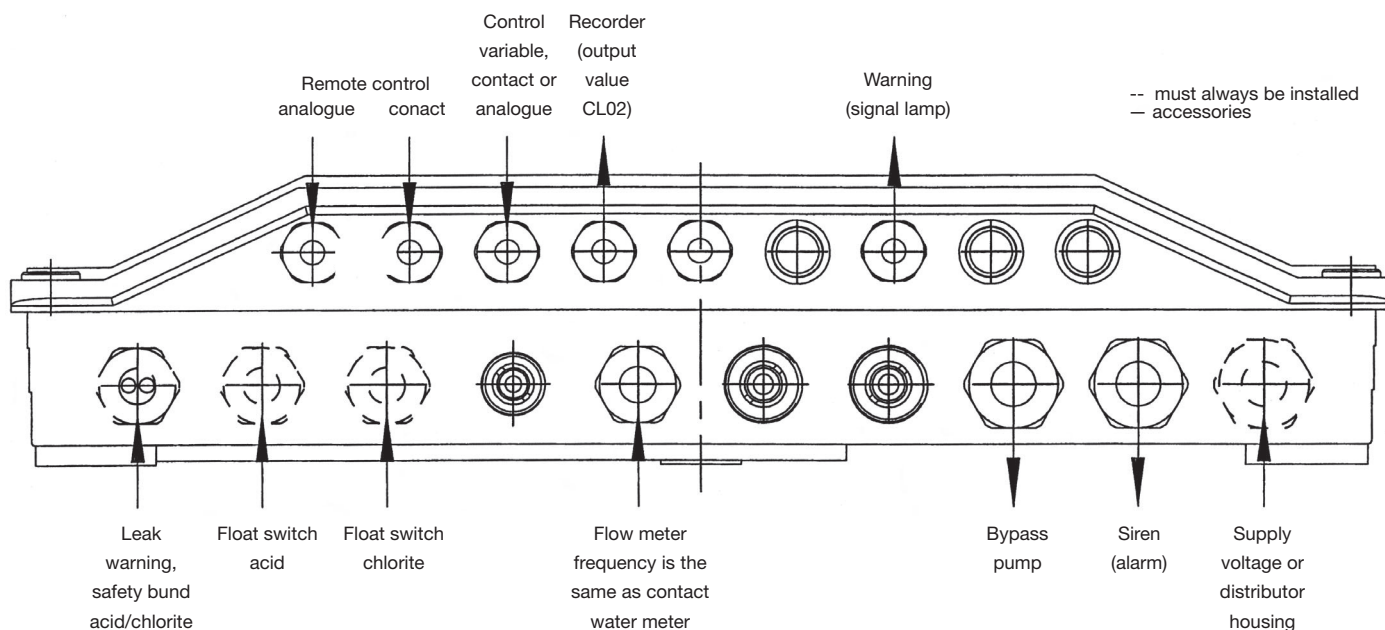

Fig. 10
- Mark the cut-outs needed on the underside of the back section for (see Fig. 10)